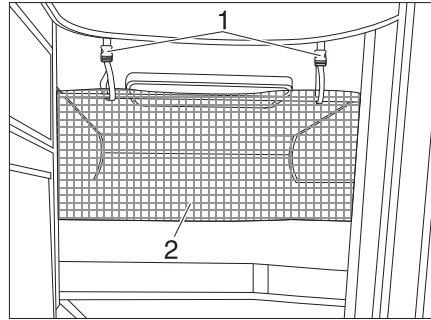

Fig. 168 Safety net
The safety net (Fig. 168,2) is stored as standard between the mattress and slatted frame. Do not use the safety net until the person is already in bed.
- Fasten the retaining straps (Fig. 168,1) to the holders on the ceiling.